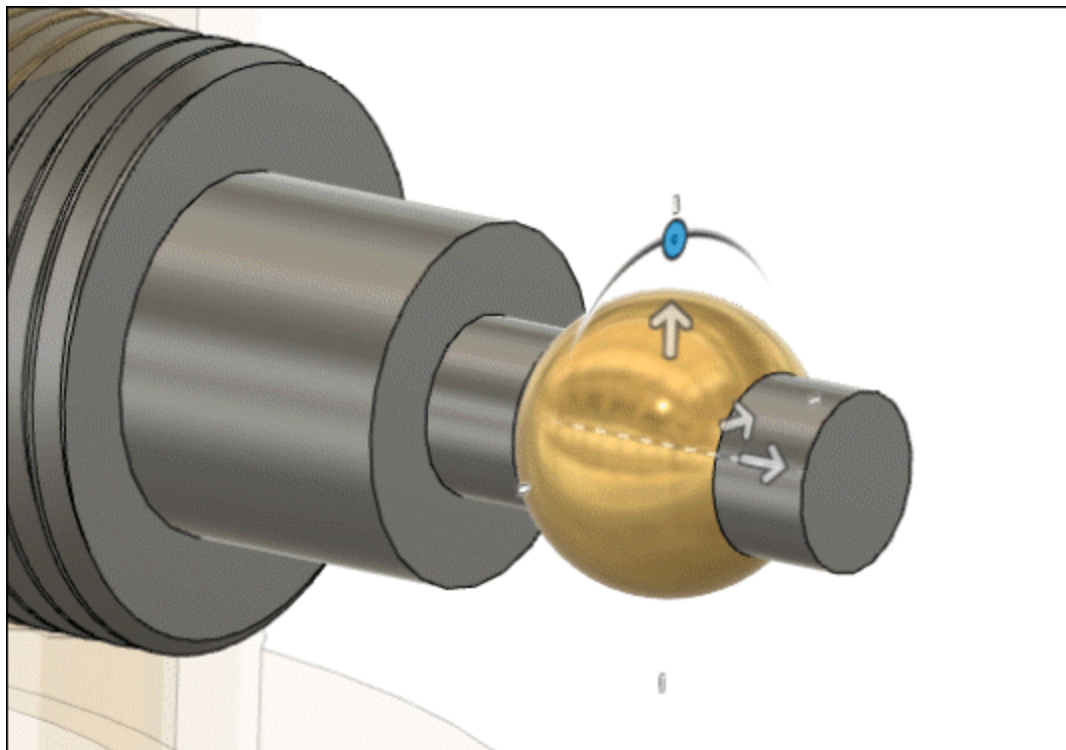

Figure-89. Components joined
- On selecting the snap point on second component, both the components will be joined; refer to Figure-89.